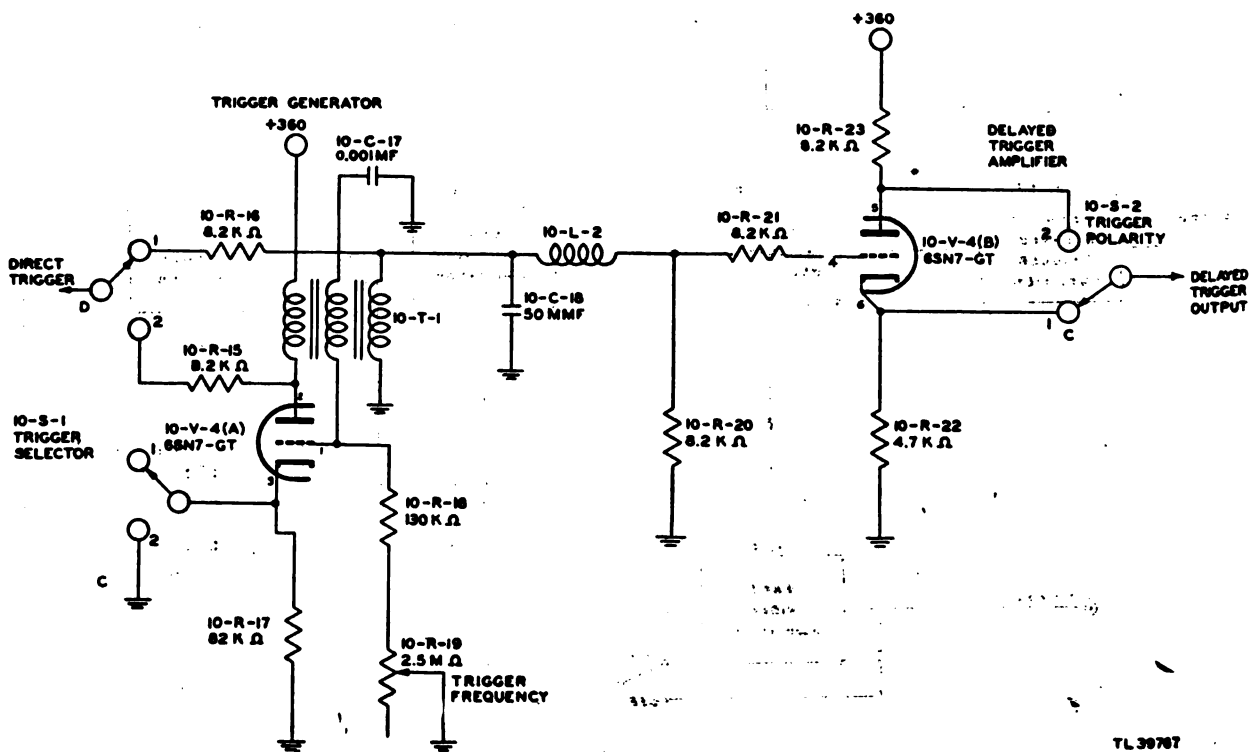

Figure 136. Trigger generator and delayed trigger amplifier, simplified schematic diagram.
(7) This slow speed sweep pulse from the slow sweep generator is amplified by slow sweep amplifier 10-V-3(B), and fed to the cathode-ray tube.
(8) A signal may be fed to the signal plates of the cathode-ray tube directly, or if it is not of sufficient amplitude, it may be amplified through video amplifier 10-V-6, and then fed to the signal plates.
(9) Calibration oscillator 10-V-1(B) generates a damped oscillation at a frequency of 1 megacycle for calibrating the length of sweep in the fast sweep position (SWEEP SPEED switch positions 1 to 4).
*e. DESCRIPTION OF CIRCUITS.* (1) *Trigger generator* (fig. 136). This stage, 10-V-4(A), is one section of a 6SN7 tube used as a blocking oscillator. The plate load transformer (10-T-1) is designed to pass very high frequencies, allowing generation of a narrow pulse of approximately 3-microseconds duration. The pulse recurrence frequency
(2) *Delayed trigger amplifier* (fig. 136). A 6SN7 tube, 10-V-4(B), is used for amplifying and isolating the output of the blocking oscillator. A delay is introduced in this stage by the inductance (10-L-2) and the 50-mmf capacitor (10-C-18) in the grid circuit. This delay allows the sweep to start approximately 1 microsecond before the external circuit under test is triggered. The trigger output pulse is slightly wider than the pulse from the oscillator since the delay introduces some distortion. A positive pulse of approximately 170 volts is applied to the grid of tube 10-V-4(B), permitting a positive pulse of 150 volts to be taken from the cathode and a negative pulse of 120 volts to be taken from the plate circuit.